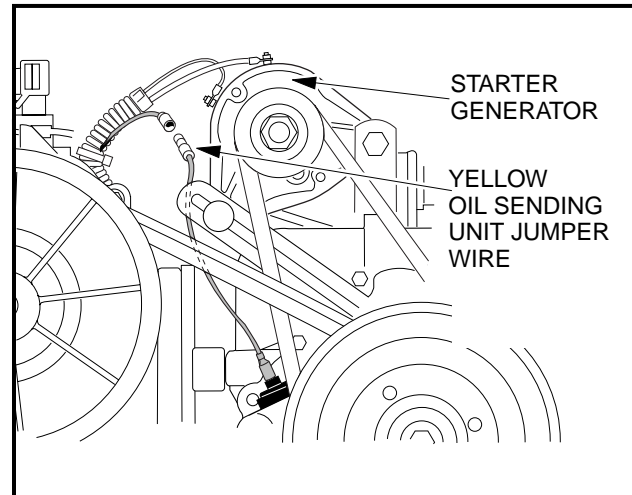

Figure 16-17 Oil Level Sensor Jumper Wire
- 3.9. Disconnect the oil level sensor wire (18 gauge yellow) at the connector just to the rear of the starter/generator) (**Figure 16-17, Page 16-9**).